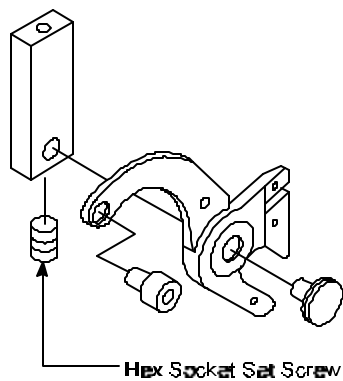

Figure 5
11. Using 1.5 mm Allen Wrench, **tighten** hex socket set screw. See Figure 5.